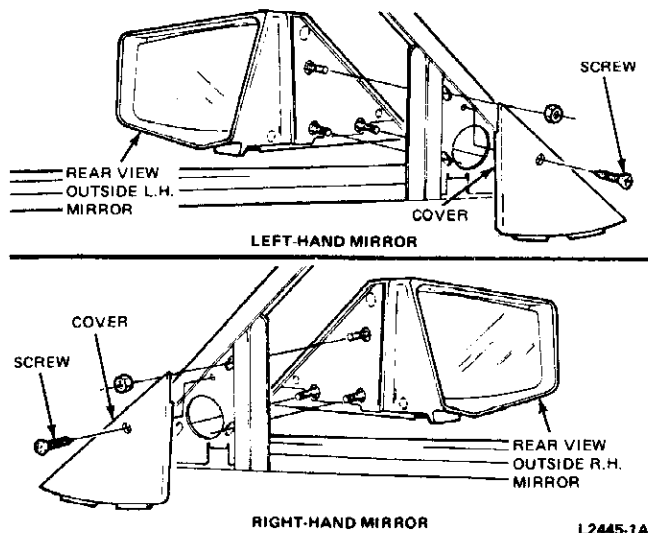

FIG. 4 L.H. and R.H. Remote Control Mirror Installation—Fairmont and Zephyr
1. Remove the bezel and/or nut from the remote control actuator (Figs. 4, 5, 6, 7, 8 and 9).